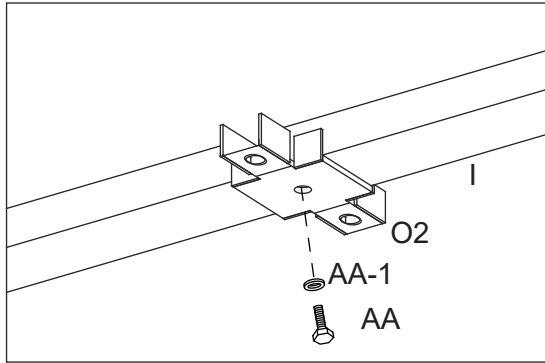

Figure 14-1
14.1: Attach Connector (O2) to Main Roof Vertical Center Support (I) using Bolt (AA) and Steel washer (AA-1). See Figure 14-1.